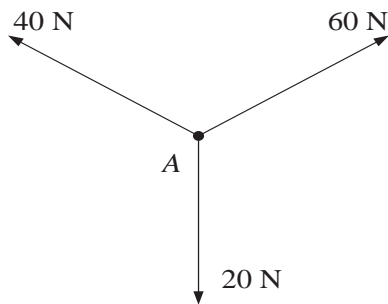

FIG. 12
- (i) Figure 12 shows THREE forces acting on the point A. Using a graphical method, determine whether point A is in equilibrium, or not, and give a reason.